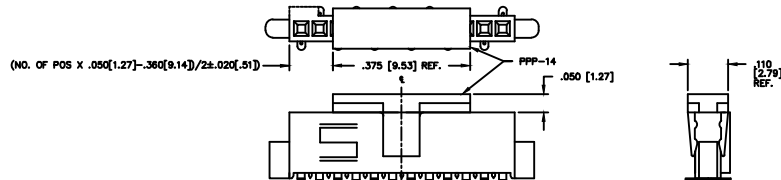

FIG. 5
-LC: LOOKING CLIP (SEE FIGURE 5) (SEE NOTE 5)